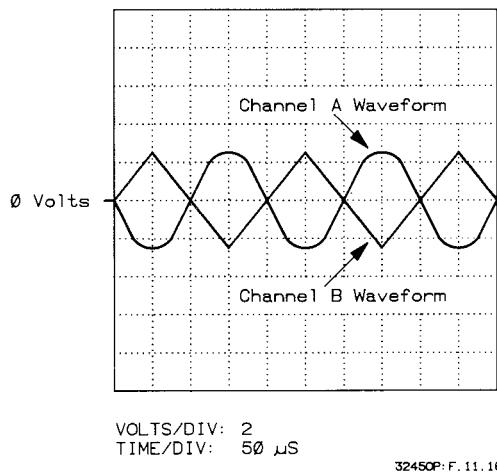

Figure 11-16. Synchronized Mode - Typical Waveform
Figure 11-16 shows an example of synchronized mode operation. Channel A (the master channel) outputs a 5 Vac PP sine waveform at phase angle  $0^\circ$ , while channel B outputs a 5 Vac PP ramp waveform at phase angle  $180^\circ$ . Both waveforms have output frequency of 5000 Hz.
**PHSYNC** sets synchronized waveform mode, sets TB1 as the channel input trigger sources, sets the Freq Ref connector as the output/input path for the reference frequency, and simultaneously triggers both channels (via TB1) to output their waveforms (refer to Table 11-7). See Figure 11-16 for a typical waveform display.
To trigger channel B, connect a BNC connector between the channel A and channel B Trigger (I/O) ports. Then, channel A and channel B are simultaneously triggered when **TRIGIN LOW** is executed. Since **REFOUT EXT** and **REFIN EXT** are set, the reference frequency from channel A is automatically sensed by channel B and no external connections are required for the reference frequency. Figure 11-16 shows a typical oscilloscope display of the output.